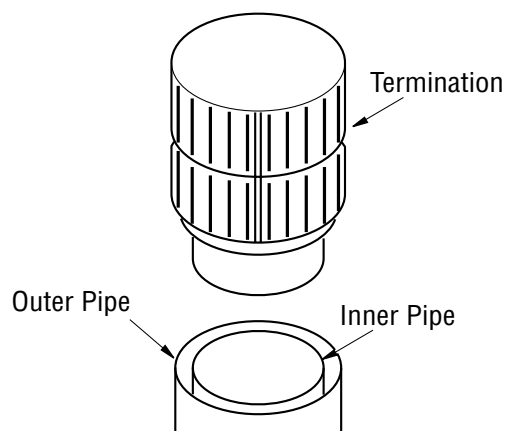
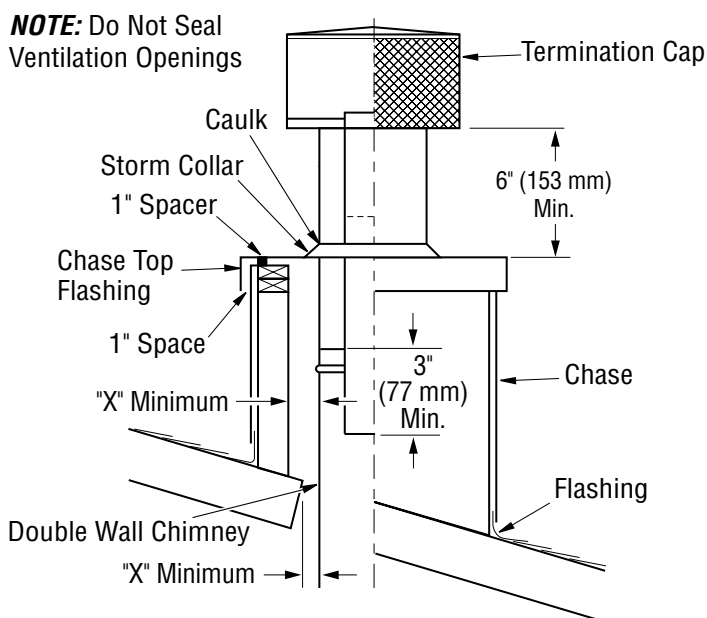

Figure 28- Installing Termination Cap
Figure 29 - Chase Installation
2. Place termination cap over opening. Slip stainless steel inner pipe of termination into inner stainless steel chimney section (see Figure 28). Place galvanized steel over chimney outlet (see Figure 29).
3. Attach storm collar where chimney pierces opening in flashing. Caulk where storm collar touches outer chimney pipe (see Figure 29).